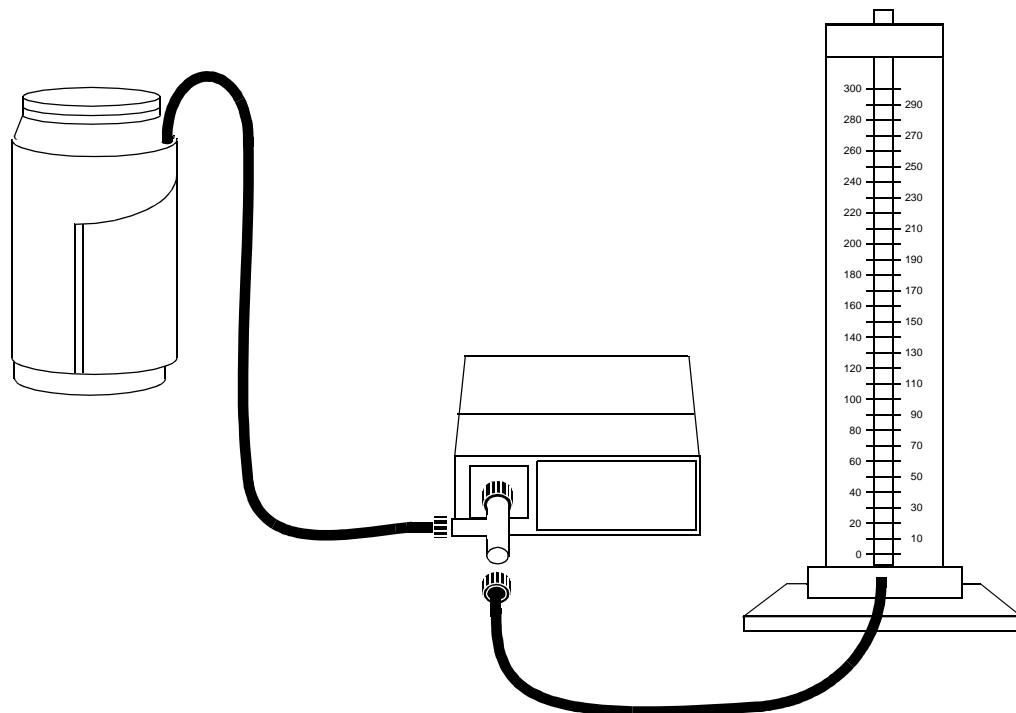

Figure 2-1: Accuracy Check
3. Wrap the pressure cuff around the rigid cylinder, and fasten the cuff. Connect the cuff hose to the remaining connection on the T-tube splitter. The test setup should appear as shown in *Figure 2-1*.